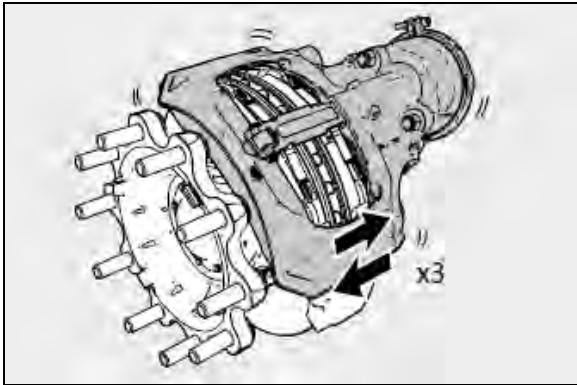

FIGURE 32: PUSH CALIPER THREE TIMES IN AXIAL DIRECTION
7. Pull off the adjuster cap (37) using the tag, taking care not to lose the shear adapter (61) (see Figure 32).
*Removal of the adjuster cap (37) with a screwdriver, or similar, is not allowed since the seal may be damaged.*